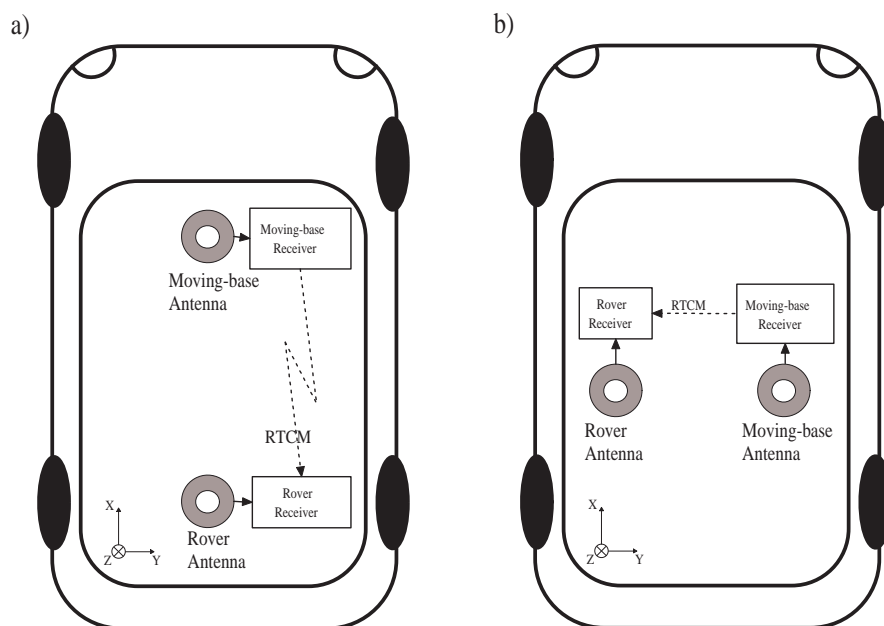

Figure 1-4: Moving-base attitude determination setup. a) default configuration. b) example of non-default configuration.
The heading and pitch of a vehicle can be derived from the orientation of the baseline between a base and a rover antenna when both antennas are attached to the vehicle. The base antenna is connected to a first receiver configured as RTK moving base station. The rover antenna is connected to a second receiver configured as RTK rover and accepting the RTCM stream from the first receiver. This is illustrated in Figure 1-4.
1. Attach two antennas to your vehicle. The default antenna configuration is as depicted in Figure 1-4 a). It consists in placing the antennas aligned with the longitudinal axis of the vehicle. If such configuration is not possible, you will have to provide additional information to the receiver, as explained below. For best accuracy, try to maximize the distance between the antennas, and avoid significant height difference between them.
in front of the rover antenna (see Figure 1-4 a)). If you cannot place the antennas in such configuration, the reported attitude angles will be biased. There are two ways to remove these biases:
- (a) The biases can be removed by telling the receiver where the moving-base antenna is located in the vehicle reference frame (see appendix A). This is done by specifying the coordinates of the baseline between the rover antenna reference point (ARP) and the moving-base ARP in the X, Y and Z directions. For example, in the configuration b) of Figure 1-4, assuming that the distance between the antenna ARPs is 1 meter, you would issue (on the rover receiver):